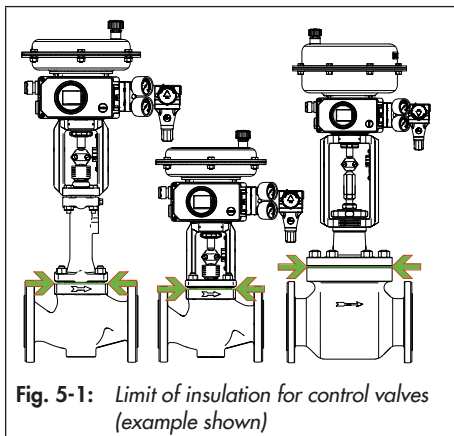

Fig. 5-1: Limit of insulation for control valves (example shown)
- Only insulate control valves up to the bonnet flange of the valve body (see Fig. 5-1). This also applies to versions with bellows seal or insulating section at medium temperatures below 32 °F (0 °C) or above 428 °F (220 °C). If the insulating section is insulated, it will not function properly.